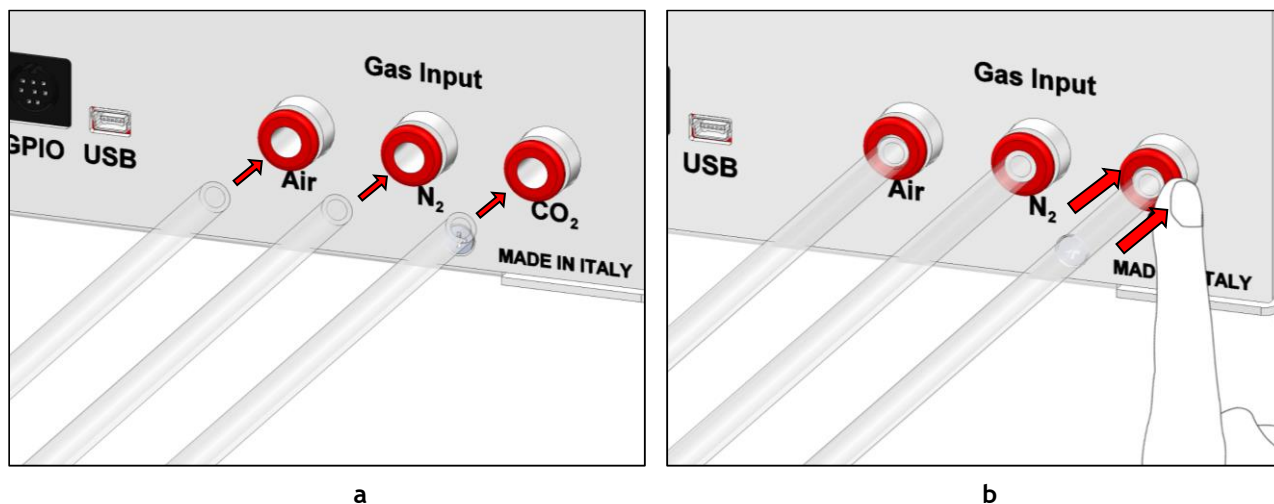

Figure 10. How to connect (a) and disconnect (b) tubings from push to fit connectors.
3. Connect CO₂ and N₂ supply to the corresponding push to fit connectors on the rear panel of CO₂-O₂-UNIT-BL [0-10; 1-18] by using TUBE-A (see Figure 10 a).
To remove tubing from the connectors, push the red rubber ring while pulling the tubing (see Figure 10 b).